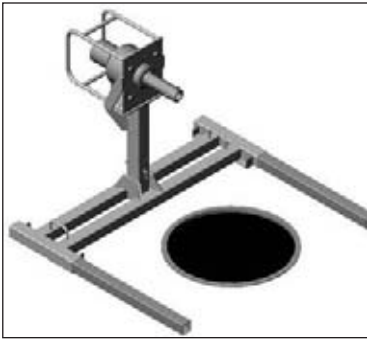
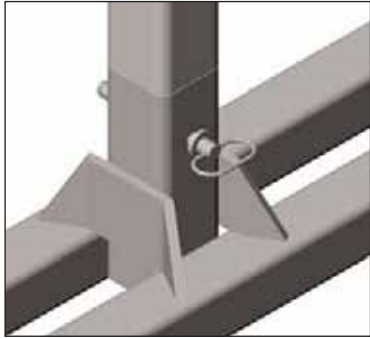

Figure 2
Figure 2a (Hitch Pin Detail)
- Place the hydraulic motor assembly into the puller stand socket with the shaft extending over the pull box or manhole as shown in Fig. 2. Install hitch pin to secure motor assembly in stand as shown in Fig. 2a.
Cannot install hitch pin into motor and stand after assembly.	<p>Make sure the motor assembly is properly installed into the stand assembly, (See fig. 2 on page 8).</p>